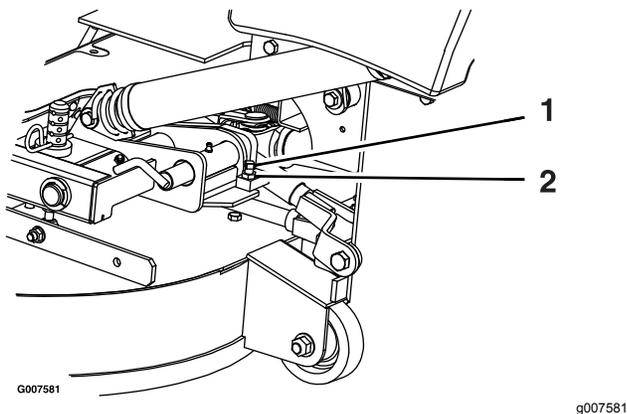

Figure 79
- Loosen the jam nut and turn the stop screw clockwise until the locking pin is tight and cannot be rotated by hand (Figure 79).